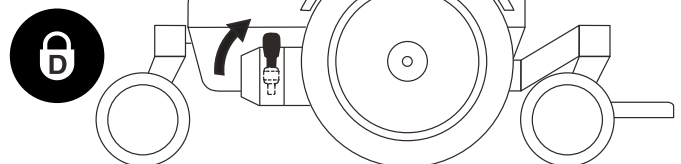

**Figure 1. Q6 Edge 2.0 Series Electrical Components**
Your power chair has two main assemblies: the seat assembly and the power base assembly. Typically, the seat assembly includes the armrests, seatback, and seat base. The power base assembly includes two motor/brake assemblies, two drive wheels, four caster wheels, two batteries, and wiring harnesses. See **Q6 Edge 2.0 Series (page 4)** and **figure 1**.
The electrical components consist of the controller assembly, the batteries, and the motors. The batteries, motors, and controller power module (if equipped) are located on the power base assembly. The controller is located on the seat assembly. Connectivity between the controller and the motors, batteries, and the battery charger is provided by one or more wiring harnesses. See **figure 1**.
5. Plug the controller connector into the rear of the power base. **See figure 1.**